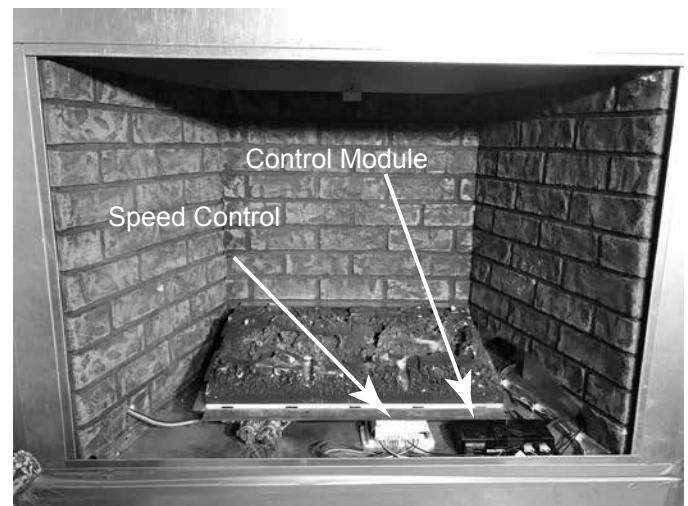

Figure 11.2 Power Vent Speed Control Location
- The power vent speed control is located in the appliance valve compartment. See Figure 11.2.